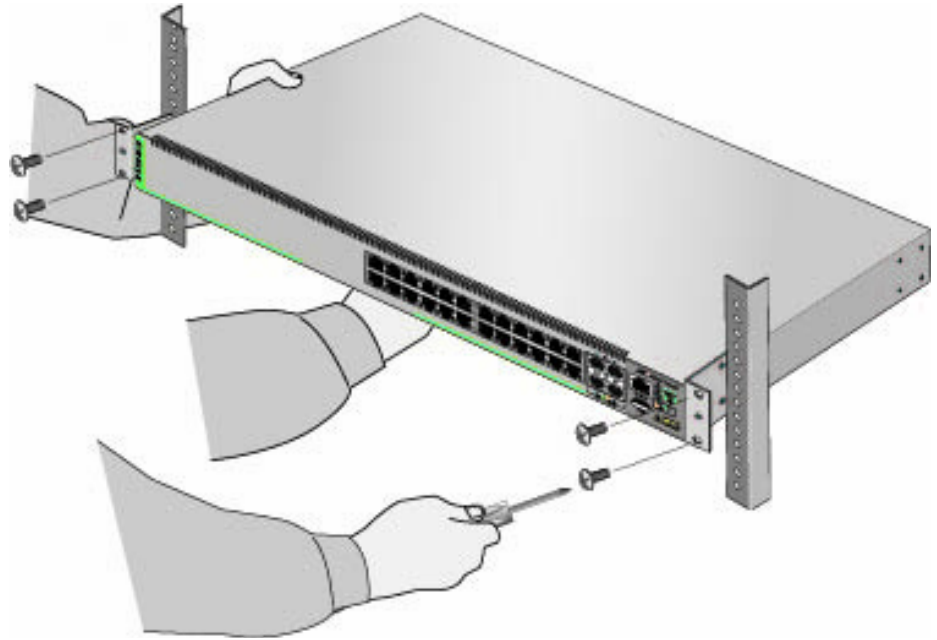

Figure 53. Installing the Switch in an Equipment Rack
3. Have another person hold the switch at the desired location in the equipment rack while you secure it using four standard equipment rack screws (not provided). Refer to Figure 53.